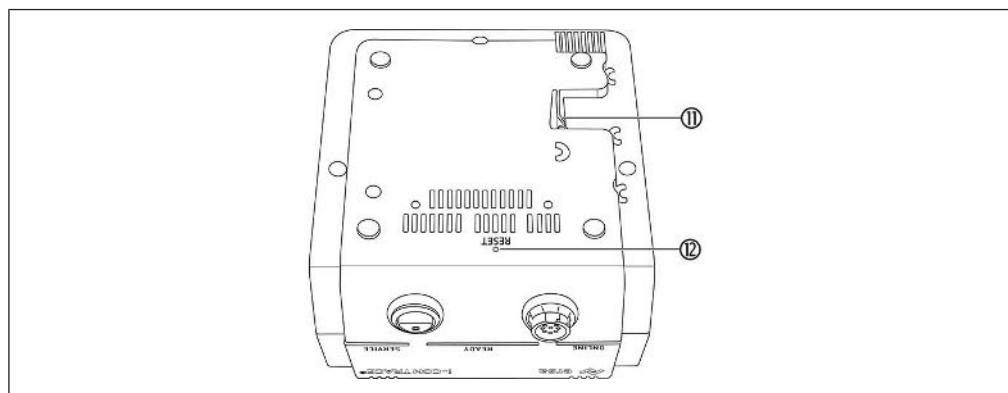

Fig. 7: Bottom side
Info: Store the soldering iron only in the central appropriate support, not in the side storage funnels of the soldering tips! (See Fig. 7)
- Place the soldering iron in the supporting stand (see Fig. 7). There must be no strain on the connecting cable of the soldering iron.
- d) Insert the dry cleaner; Fig. 7 shows the recommended position.